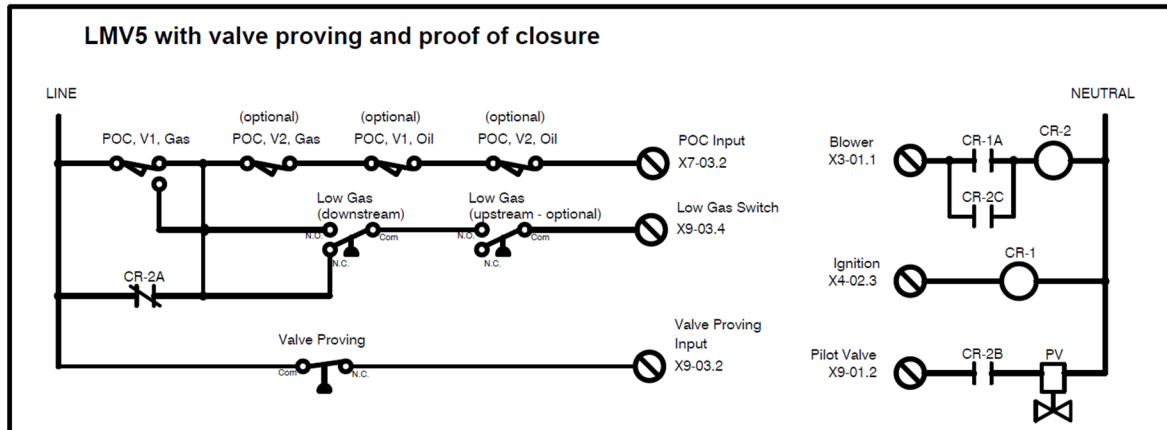

Figure 14: Option 2 Valve Proving with Proof of Closure Electrical Schematic
1. The LMV5 is in standby. All valves are closed, and all switches and relays are as shown in the electrical schematic (Figure 14). The CR-1 and CR-2 relays are de-energized and the POC input is powered. The LGPS input is powered by the jumper landing after the normally closed contact (CR-2A).